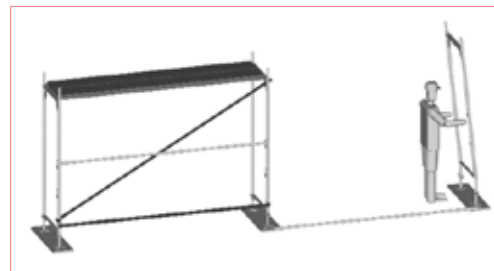

Fig. 2.2
Place the platforms onto frames' U-profiles. Insert angle brace into frame's gusset plate's opening. Screw its other end, through the catch, to the opposite vertical frame (to its lower part). Using the plumbing jig, set the frames vertically and level the assembled bay. Starting from this initial bay, assemble subsequent bays by attaching frames onto footings, connecting them with assembled bays with the use of railings, and placing platforms (Fig. 2.2).
**WARNING: Each braced bay has to contain horizontal brace. It is attached by screwing it onto frame's stands, right above the footing's nut (Fig 2.2).**